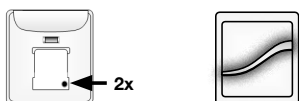

Fig. 2
2. Using a paper clip or a similar item, press and release the programming button located on the back side of the new remote twice in rapid succession (2 taps) The LED on the remote will flash alternatively amber and green. (Fig. 2)